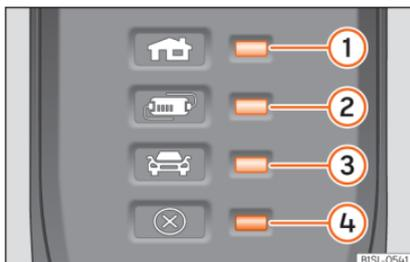

Fig. 216 On the charging cable for power sockets: Indicator lamps on the protection device.
»» Fig. 216:
The electronic protection device »» Fig. 216 ensures that the charging connector does not receive current until it is plugged in to the vehicle's charging connector.
One or more indicator lamps »» Fig. 216 ①, ② or ③ light up green.
| Display »» Fig. 216 | Meaning |
If the red warning light ④ flashes or turns on without one of the indicator lamps »» Fig. 216 ①, ② or ③ also turning on continuously on the status indicator, there is a fault.